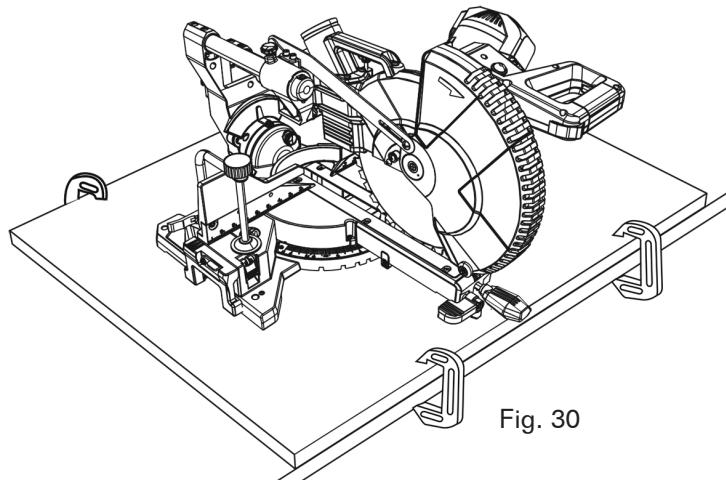

Fig. 30
2. For portable use, place the saw on a 3/4 in. thick piece of plywood. Bolt the base of the miter saw securely to the plywood using the mounting holes on the base. Use C-clamps to clamp this mounting board to a stable work surface at the worksite. (Fig. 30)